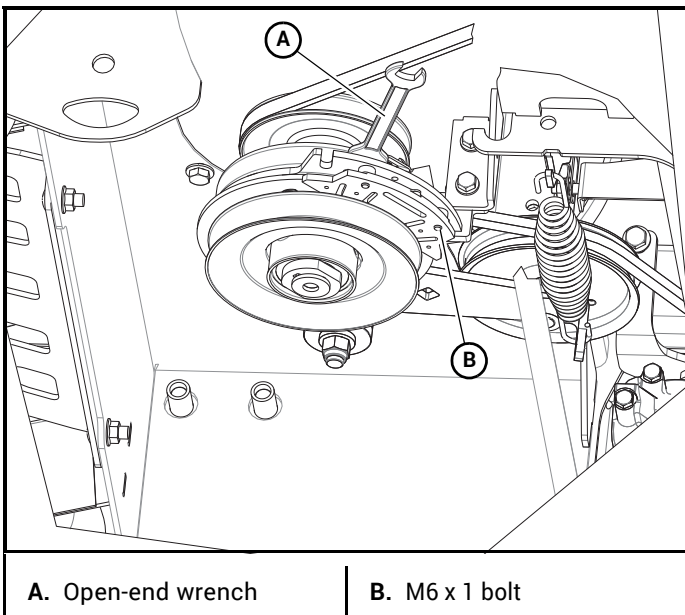

Figure 6-20
1. Loosen both brake mounting bolts (M6 x 1) 1/2 to 1 full turn as shown in Figure 6-20.